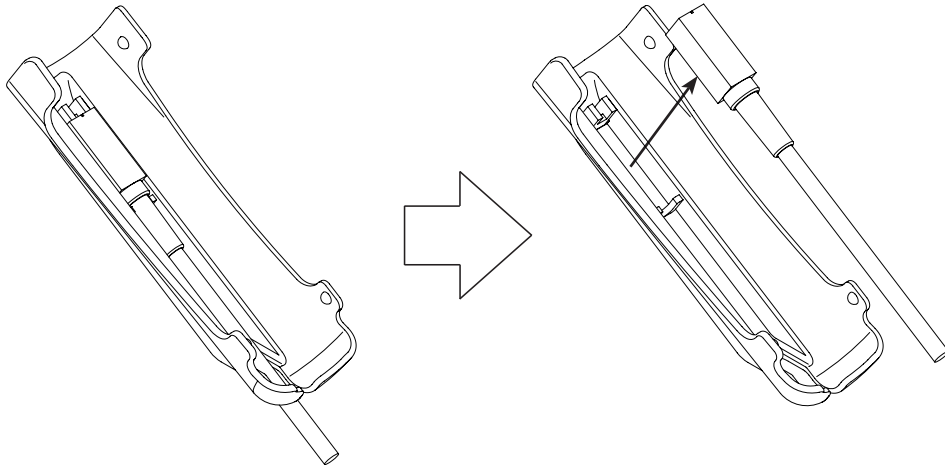

Figure 7 How to release Magnetic Position Sensor
- (2) Release the magnetic position sensor from the magnetic position sensor attachment as shown in Figure 7.